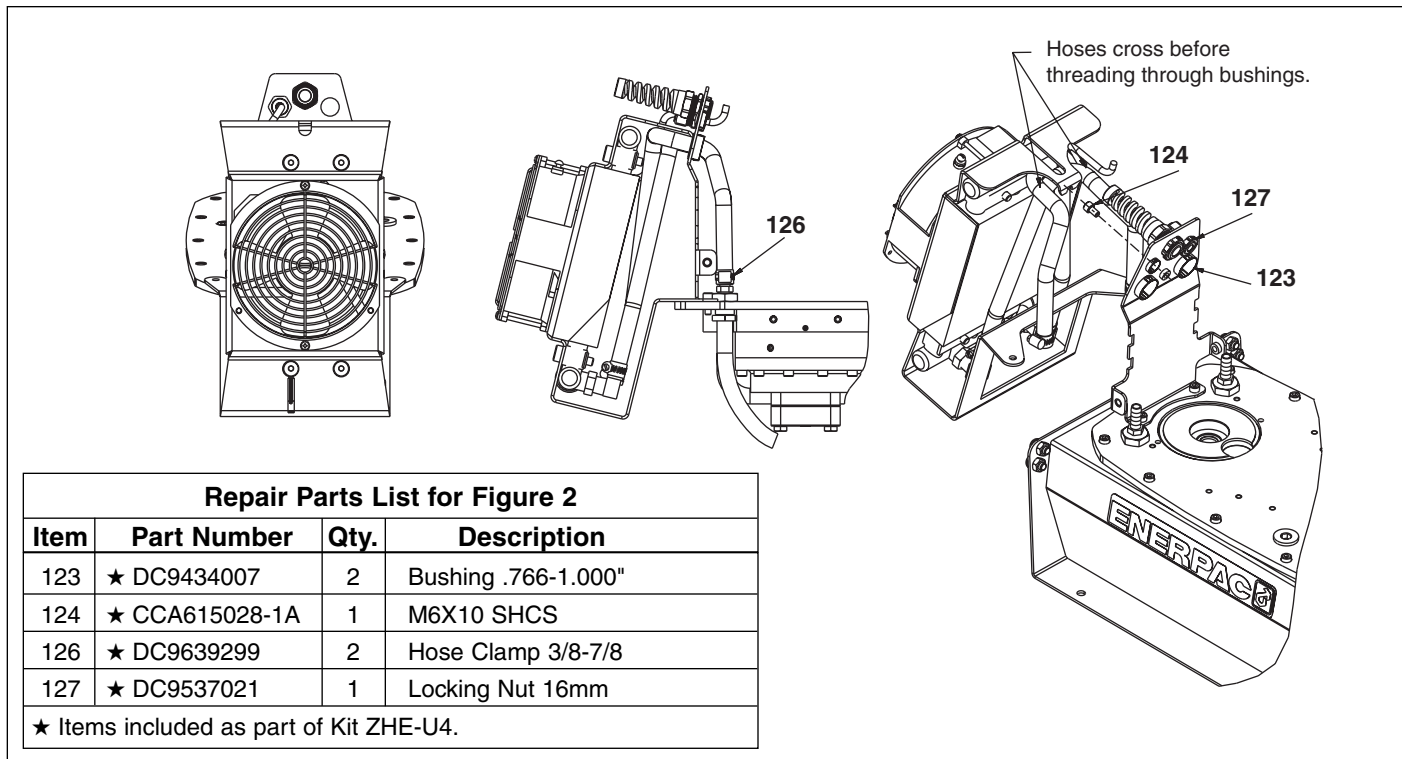
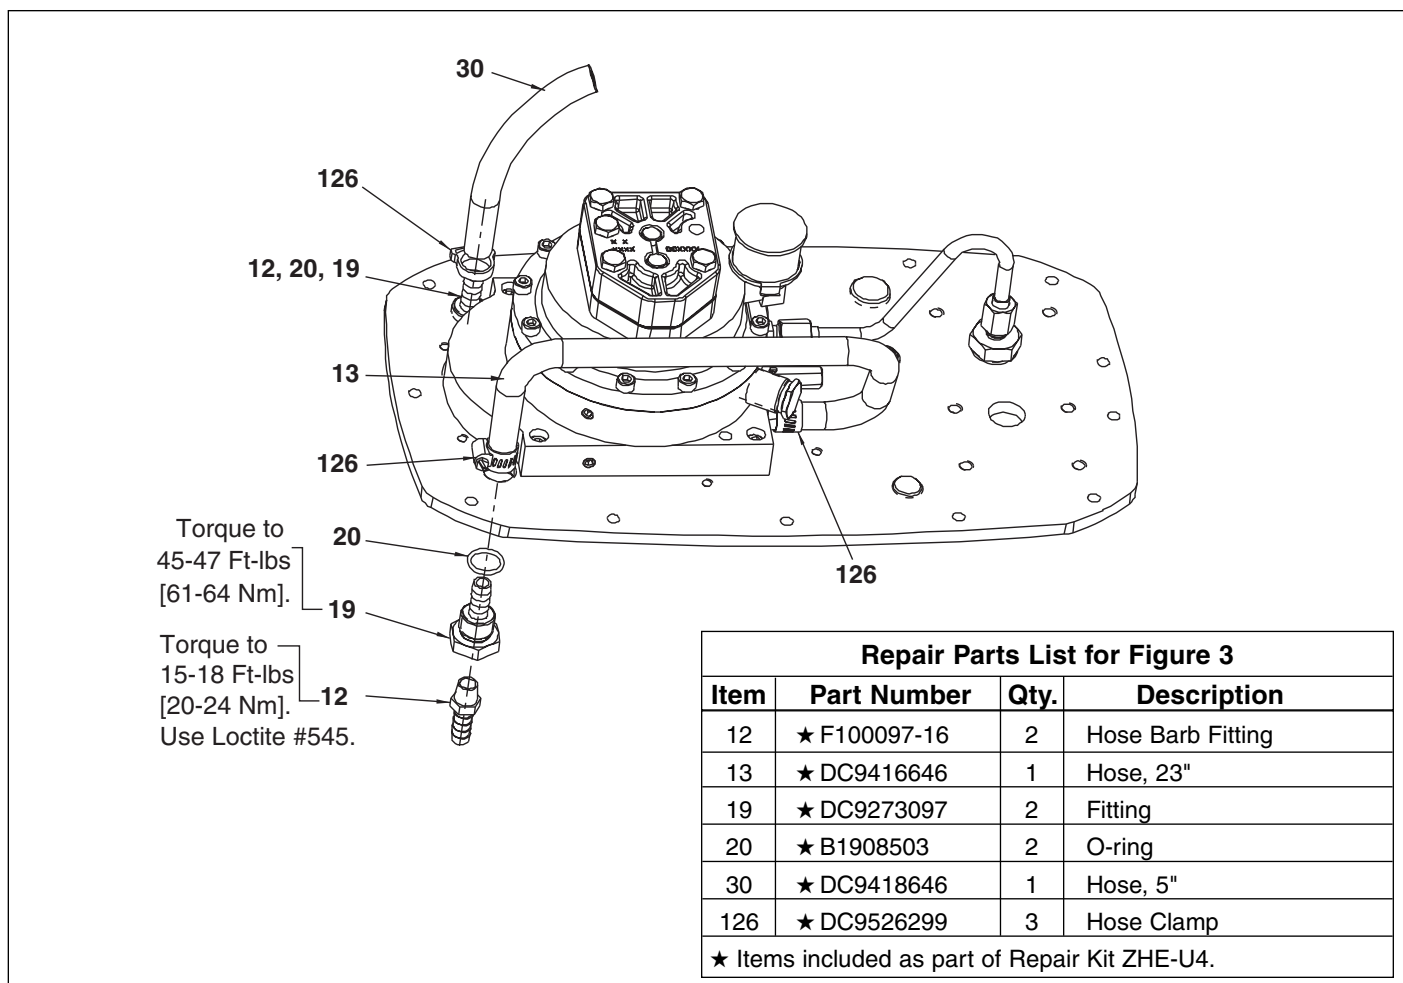

Figure 2, Heat Exchanger
Figure 3, Heat Exchanger Cover Plate
9. Install the o-rings (item 20), the fittings (item 19), and the hose barbs (item 12) into the ports that the SAE #8 plugs were removed from (see Fig. 3).
11. Install the 23" hose from the pump element to the fitting (item 19) using two hose clamps (item 126) as show in Fig. 3.
12. Install the 5" hose to the remaining fitting (item 19) using one hose clamp (item 126) as shown in Fig. 3. This is the return hose.
14. Slide a bushing (item 123, Fig. 2) on each hose. Cross the two hoses and insert the hose ends into the back bracket.
15. While keeping the bushings close to the top, route the hoses down, slide a hose clamp (item 126, Fig. 2) on each hose and press the hoses onto the hose barb (item 12, Fig. 3). Tighten the hose clamps.
17. Assemble the heat exchanger to the pump. The heat exchanger is held on the pump by the two back corner screws left off earlier and one top screw (item 124, Fig. 2). Torque the cover plate screws to 50 - 60 inch lbs.
18. Route the fan cord through the back bracket as shown in Fig. 2. The cord bushing comes assembled on the cord. Using the lock nut (item 127, Fig. 2) fasten the cord bushing to the back bracket being careful not to over tighten the plastic lock nut (item 127).